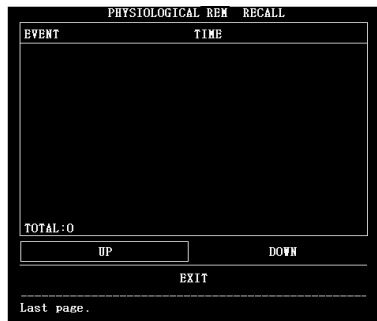

Figure 3.19 Physiological Reminder Recall
- 2) Revolving the knob key to enter **Physiological Reminder Recall**, The physiological **Reminder** of fetal heart rate exceeding limit can be reviewed. the diagram is showed as **Figure 3.19**